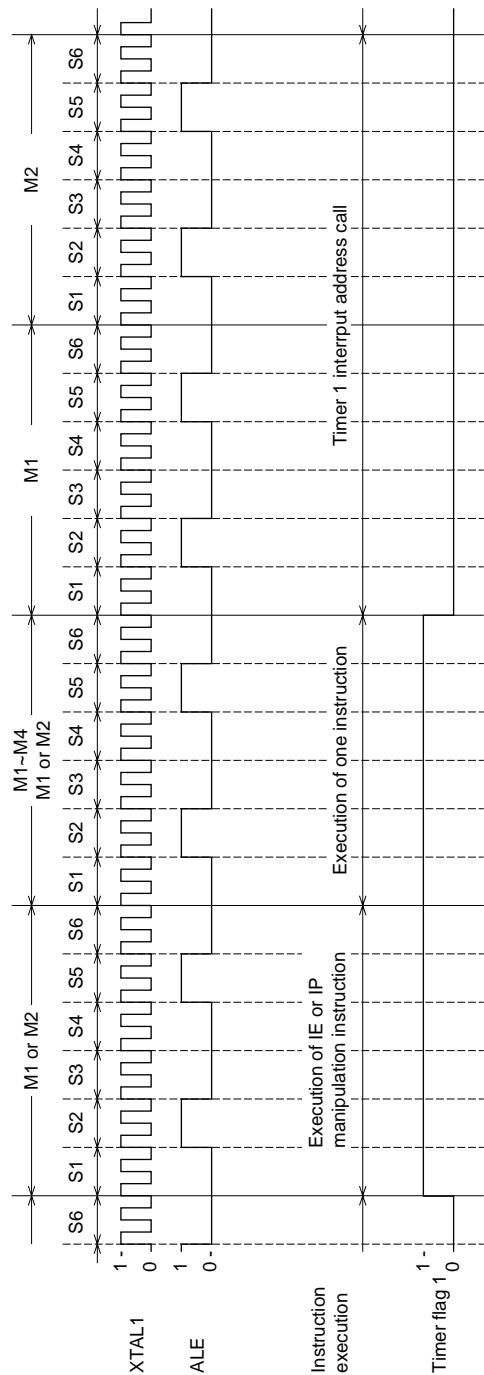

Figure 4-50 Interrupt response time chart when interrupt conditions are satisfied during execution of IE or IP register manipulating instruction in main routine
If interrupt conditions are satisfied during execution of an instruction used to manipulate the interrupt enable register (IE) or the interrupt priority register (IP) in the main routine, the MSM80C154S/MSM83C154S reactivates the interrupt mask circuit in the next cycle following completion of the register manipulation instruction. If interrupt conditions were met as a result of the re-interrupt mask, the interrupt address is called in the next cycle. That is, if the interrupt conditions are satisfied during execution of the IE or the IP manipulating instruction, the interrupt address is called after the next instruction is executed following execution of the register manipulating instruction. The time chart is given in Figure 4-50.